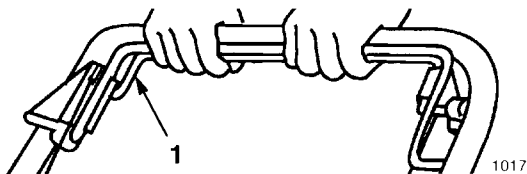

Figure 15
1. To operate the self-propel drive, squeeze the self-propel drive bail against the handle and hold it (Fig. 15).